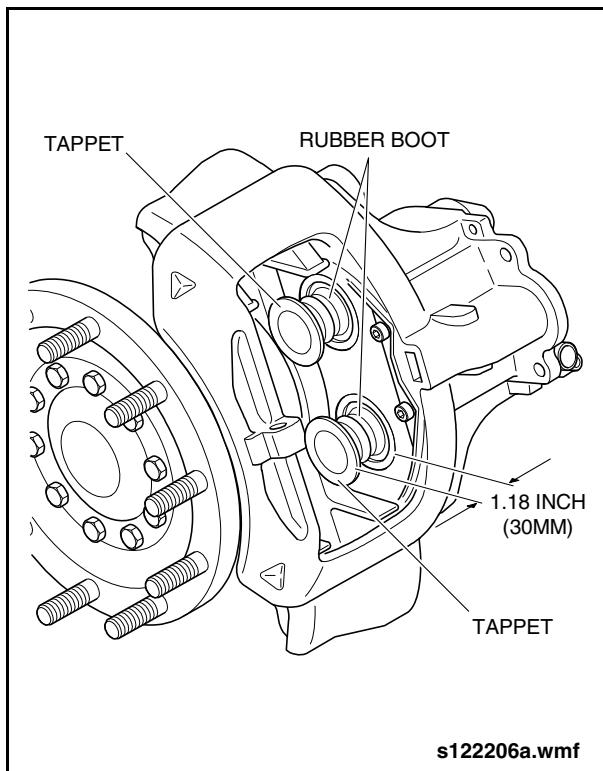

Fig. 1-52: Tappet & Rubber Boot Inspection
2. Rotate the adjuster clockwise until the tappets extend approximately 0.79" (20 mm) from the caliper surface. This will allow full extension of the tappet rubber boot for a proper visual inspection. See "Fig. 1-52: Tappet & Rubber Boot Inspection" on page 57.